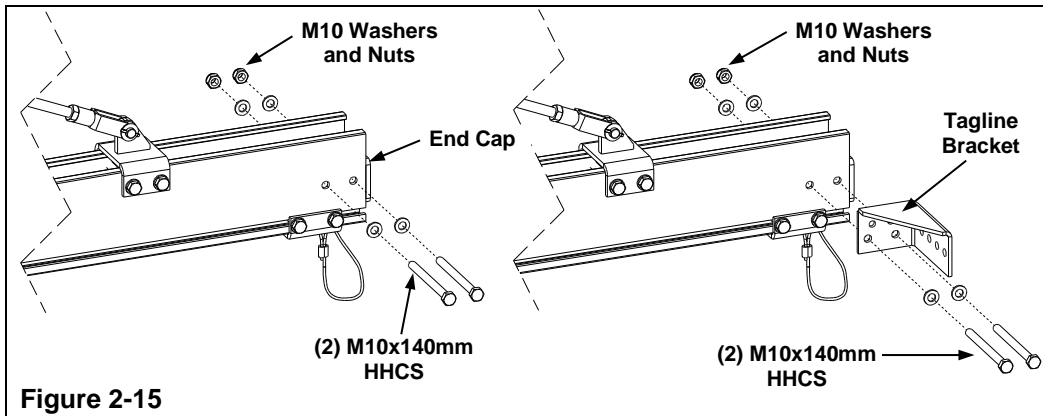

Figure 2-15
- Step 1. Remove (2) M10x140mm HHCS bolts, washers, and nuts on each end cap of the rail. See Figure 2-15.
- Step 2. Place tagline bracket on one end of the rail, aligning the (2) holes on the bracket with the (2) holes of the end cap. See Figure 2-15.
- Step 3. Install the (2) M10x140mm HHCS bolts through the bracket and rail. Tighten the M10 bolts, washers, and nuts.